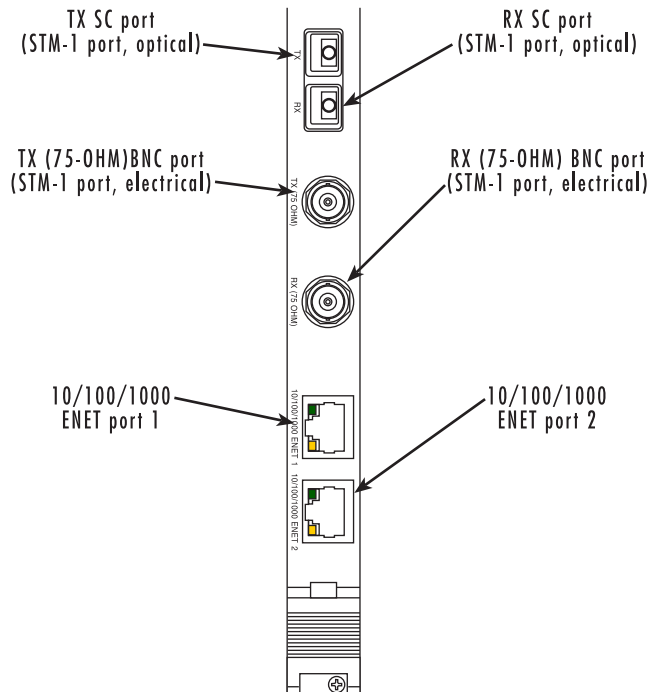

Figure 14. Matrix Switch rear blade network interface ports
- The Matrix Switch rear blade’s STM-1 SDH WAN port (presented in SC optical and 75-ohm BNC electrical formats) and two 10/100/1000 Ethernet WAN/LAN management ports (see figure 14)
The designation *SC20* in the model code denotes that an optical interface conforming to ITU specification G.957 and G.652 is present. The Matrix Switch presents the STM-1 optical interface on a pair of SC fiber-optic connectors, one for the transmitting (TX) and one for receiving (RX) signals (see figure 14 on page 35).
2. Attach the transmit fiber-optic cable connector to the *TX* SC connector on the rear blade (see figure 14 on page 35).
The Matrix Switch presents the STM-1 electrical interface on a pair of 75-ohm female BNC connectors, one for the transmitting (TX) and one for receiving (RX) signals (see figure 14 on page 35).
1. Attach the transmit connector of the coaxial cable to the *TX* connector on the rear blade (see figure 14 on page 35).
The Matrix Switch provides two 10/100/1000Base-T Ethernet transceivers, accessible via physical interfaces on the rear-panel of the rear blade, for connection to an external router, hub, or switch. Both interfaces are presented on RJ-45 6-pin female receptacles. The interfaces comply with IEEE specification 802.3 and are labeled *ENET 1* and *ENET 2* (see figure 14 on page 35).